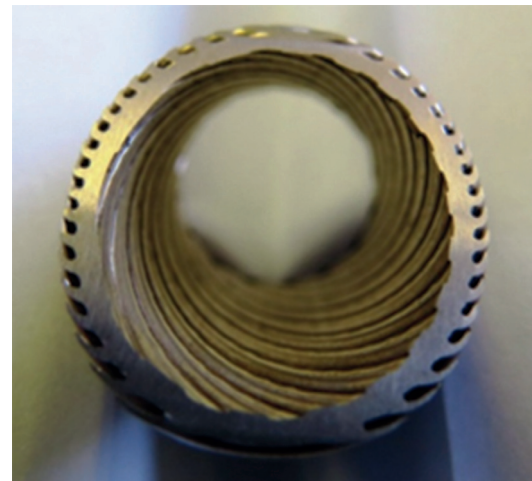

Fig. 1. Thermo-B tube with internal helical microfins and outside boiling enhancement. Image courtesy of NEOTISS.
Comparing tube bundle designs showed that upgrading from plain tubes to the Thermo-B dual-enhanced tubes (Fig. 1) delivered a substantial boost in process throughput. Thermo-B tubes feature a modified fin structure on the outside diameter (OD) to enhance nucleate boiling at low temperature differences. This configuration allowed the plant to achieve a 12% increase in feed rate, illustrating that appropriate tube enhancements can improve heat exchanger efficiency by replacing only the existing tube bundle.